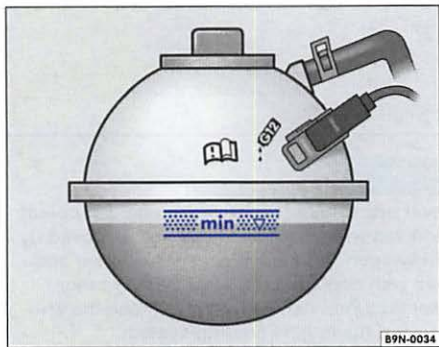

Fig. 131 Coolant expansion tank in the engine compartment.
- When the engine is cold, check the engine coolant level relative to the marking on the side of the expansion tank $\Rightarrow$ fig. 131.
- Add only **new** engine coolant according to Volkswagen specifications ($\Rightarrow$ page 235) $\Rightarrow$ ①.
- The engine coolant level must be inside the marks on the side of the reservoir $\Rightarrow$ fig. 131. **Do not fill above the top edge of the filling range!** $\Rightarrow$ ①
- Refill engine coolant only up to the top edge of the marked fill range ⇒ **fig. 131**. Excess engine coolant may be forced out of the engine cooling system when it gets hot and cause damage.